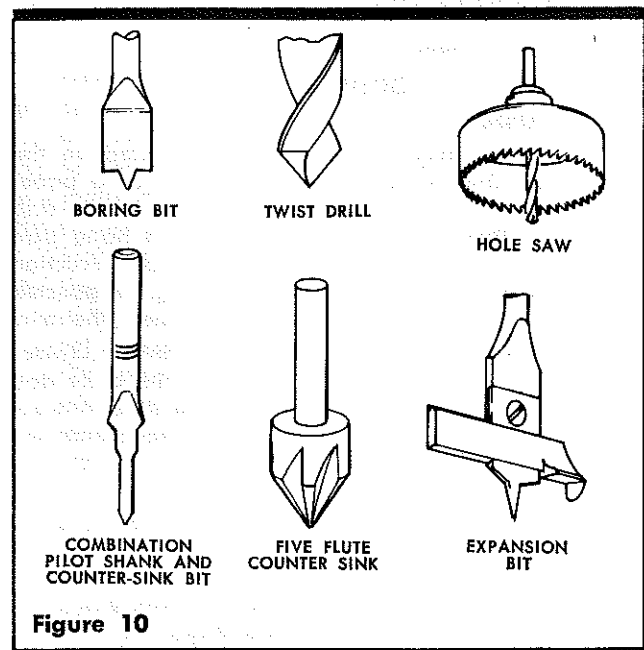

Figure 10
2. **Types of Drill Bits.** (See figure 10.)